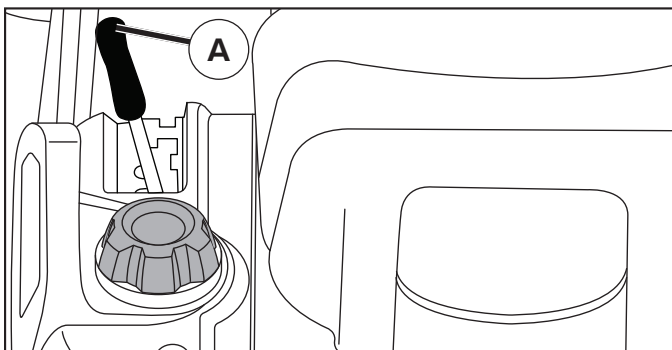

Fig. 8
- Slowly depress forward (K) or reverse (L) drive pedal to begin movement. Ground speed increases the further down the pedal is depressed.
## TO USE CRUISE CONTROL (J) (See Fig. 8)
(See Fig. 8)